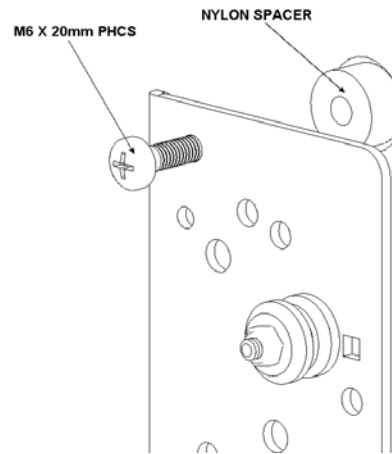
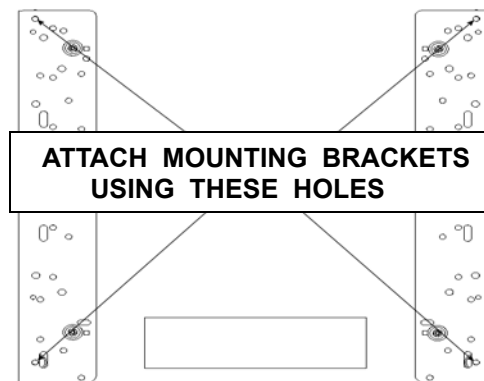

Figure 22. Spacer Installation for Group 7
Figure 23. Bracket Attachment for Group 7
- Place the four Nylon spacers over the mounting holes on your Large Flat Panel display (see Figure 22).
- Place the interface brackets over the Nylon spacers (see Figure 22 and Figure 23).
- Using the hardware in parts bag H, secure the interface brackets to your Large Flat Panel display using the top hole and the bottom hole (see Figure 22 and Figure 23) in each interface bracket. Do not overtighten the mounting screws.